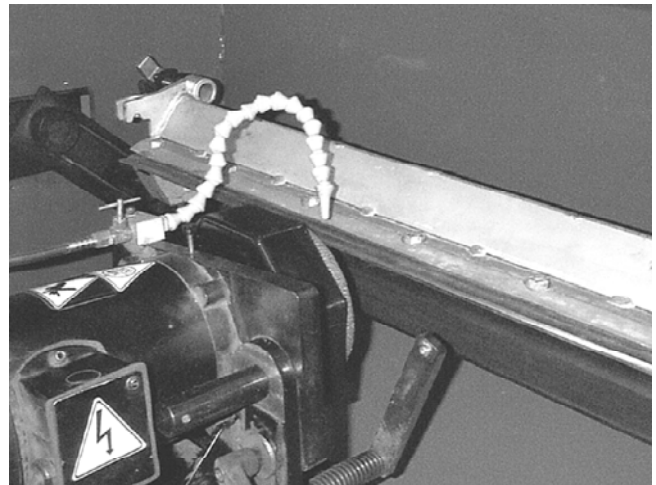

FIG. 17
Direct the nozzle so the coolant sprays onto the bedknife face being ground. See FIG. 17 or 18.
2. Check that the nozzle is directing coolant onto the bedknife. See FIG. 17 and 18 on page 12.